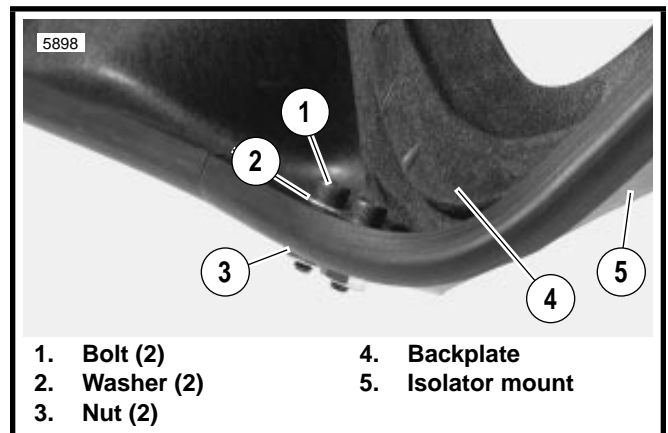

Figure 24. Front Isolator Mount Attachment
- a. See Figure 24. Remove two bolts (1), washers (2) and nuts (3).
- d. See Figure 24. Install two bolts (1), washers (2) and nuts (3) through backplate into isolator mount.